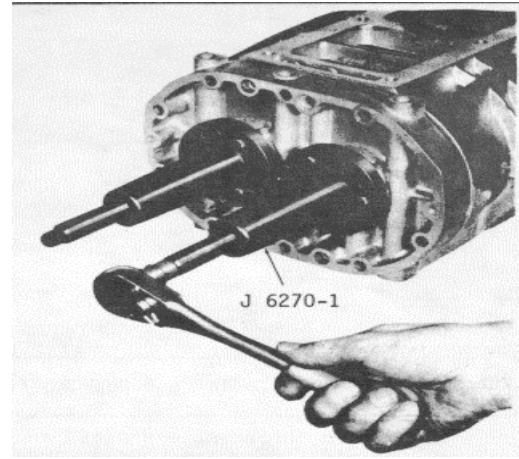

Fig. 3
- (d) Turn the two puller screws uniformly clockwise and withdraw the end plate and bearings from the blower housing and rotors as shown in Fig.3.
- (6) Remove the blower front end plate and roller bearing assembly from the blower housing and rotors as follows: